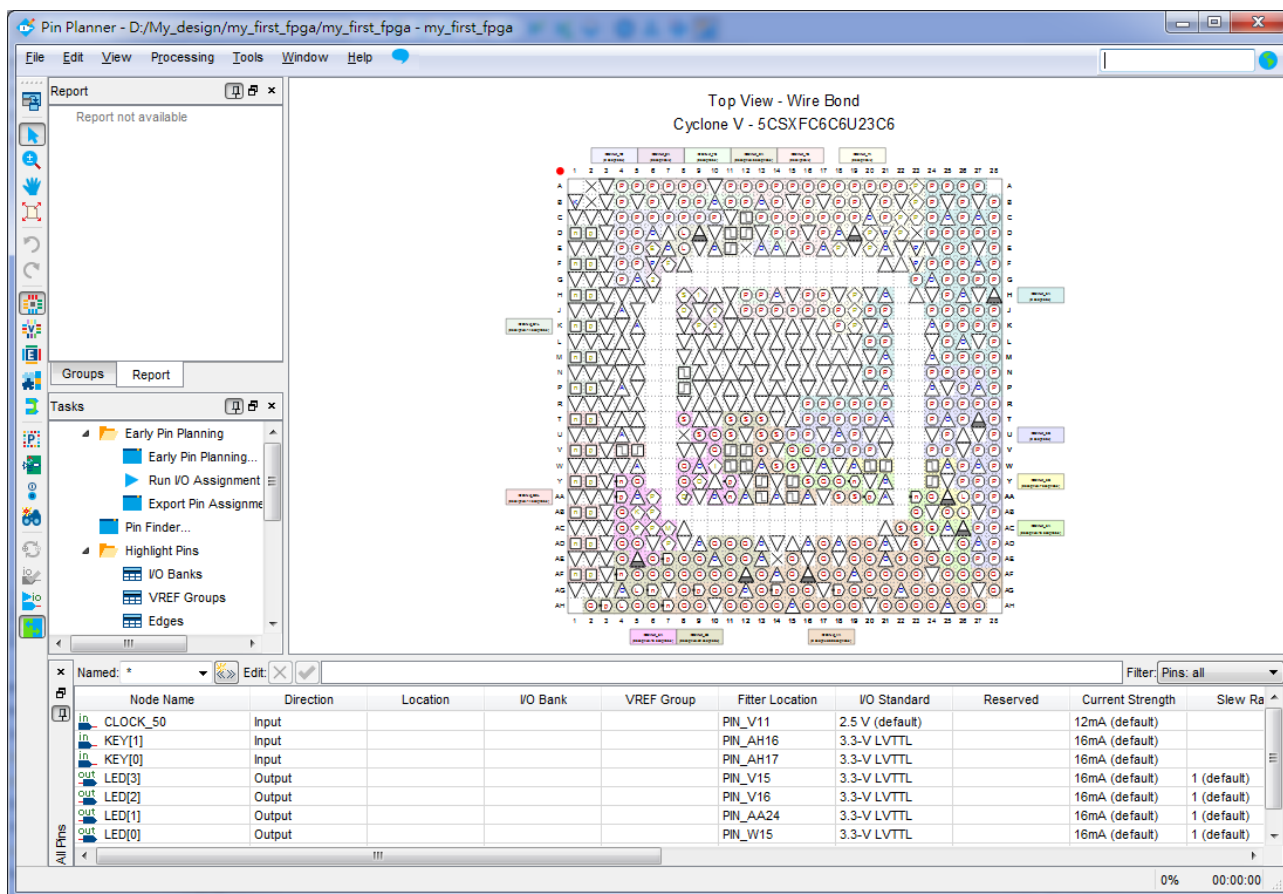

Figure 3-32 Pin Planner Example
1. Choose Assignments > Pin Planner, which opens the Pin Planner, a spreadsheet-like table of specific pin assignments. The Pin Planner shows the design’s six pins. See **Figure 3-32**.